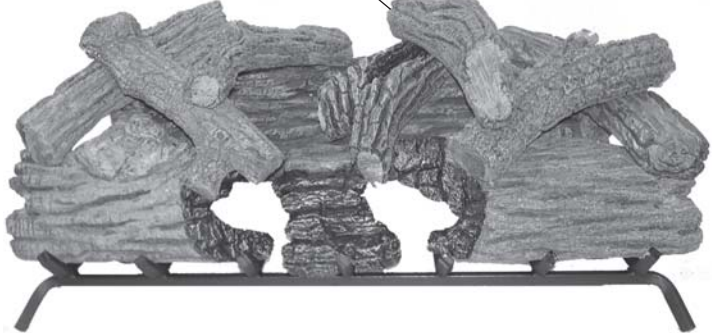

Figure 45 - Installing Top Middle Log (#5)
12. Install top middle log #5. See Figure 45.